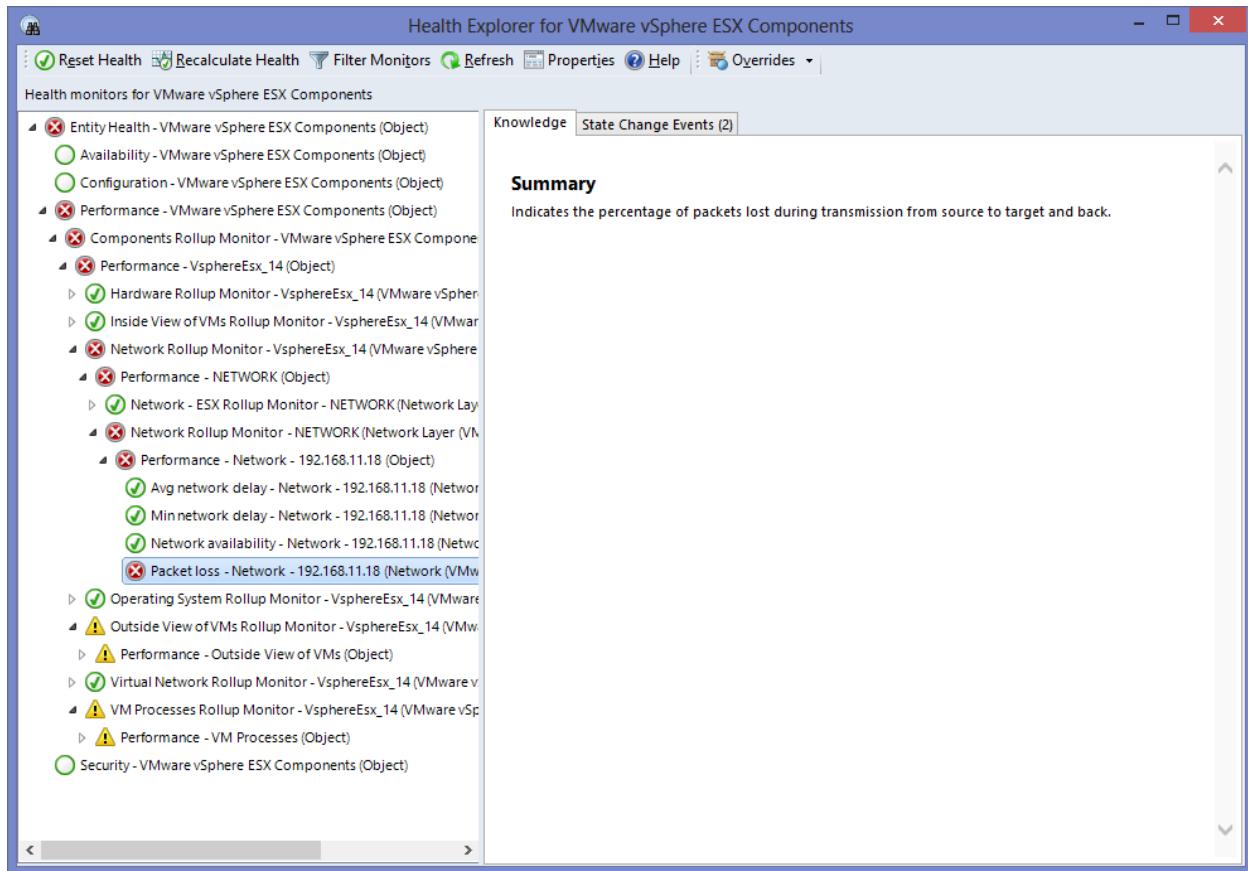

Figure 3.13: Health Explorer revealing the accurate reason for the Network problem with the VMware vSphere ESX server
4. To zero-in on the precise issue, right-click on the **Network** test representation in the topology and pick the **Health Explorer** option. Figure 3.13 will then appear pointing you to the exact measure that deviated from the threshold and caused the Critical problem. As can be inferred from Figure 3.13, a high packet loss on the network link to the VMware vSphere ESX server is what led to the Critical state of the vSphere server.